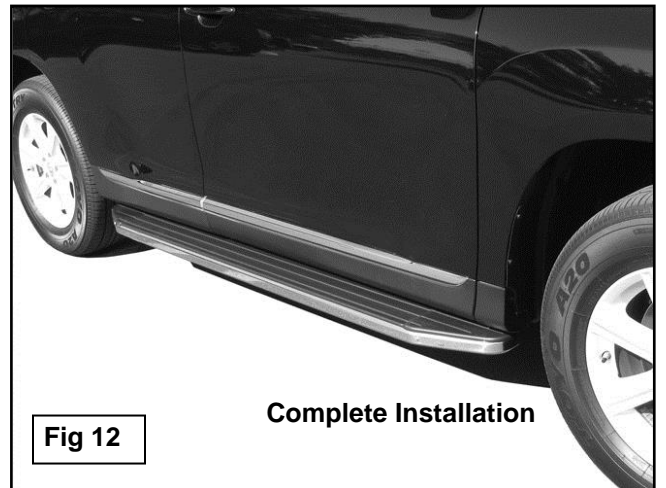

**Fig 10**
5. Carefully unwrap the passenger side Running Board. From the front, slide (3) T-Bolts into each channel in the bottom of the Running Board, (**Figure 9**). Slide the T-Bolts forward or back to line up with the slots in the (2) previously installed Mounting Brackets. Hold the Running Board up to the vehicle at a slight angle and gently push it into position against the rocker panel. Insert the T-Bolts through the slots in the Brackets, (**Figure 10**).
6. Attach the Running Board to the Mounting Brackets with the included (6) 6mm Flat Washers, (6) 6mm Lock Washers and (6) 6mm Hex Nuts, (**Figure 10**). Do not tighten at this time.